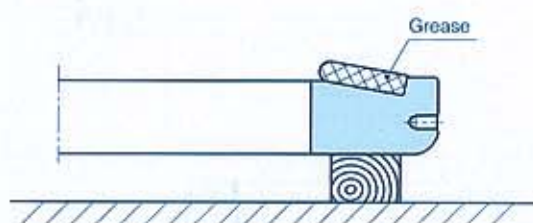

Fig. 3.38
- (1) Apply a thin coat of grease over the outer ring with matching symbol A and place the outer ring on the blocks with the raceway surface facing upward. (Fig. 3.38)